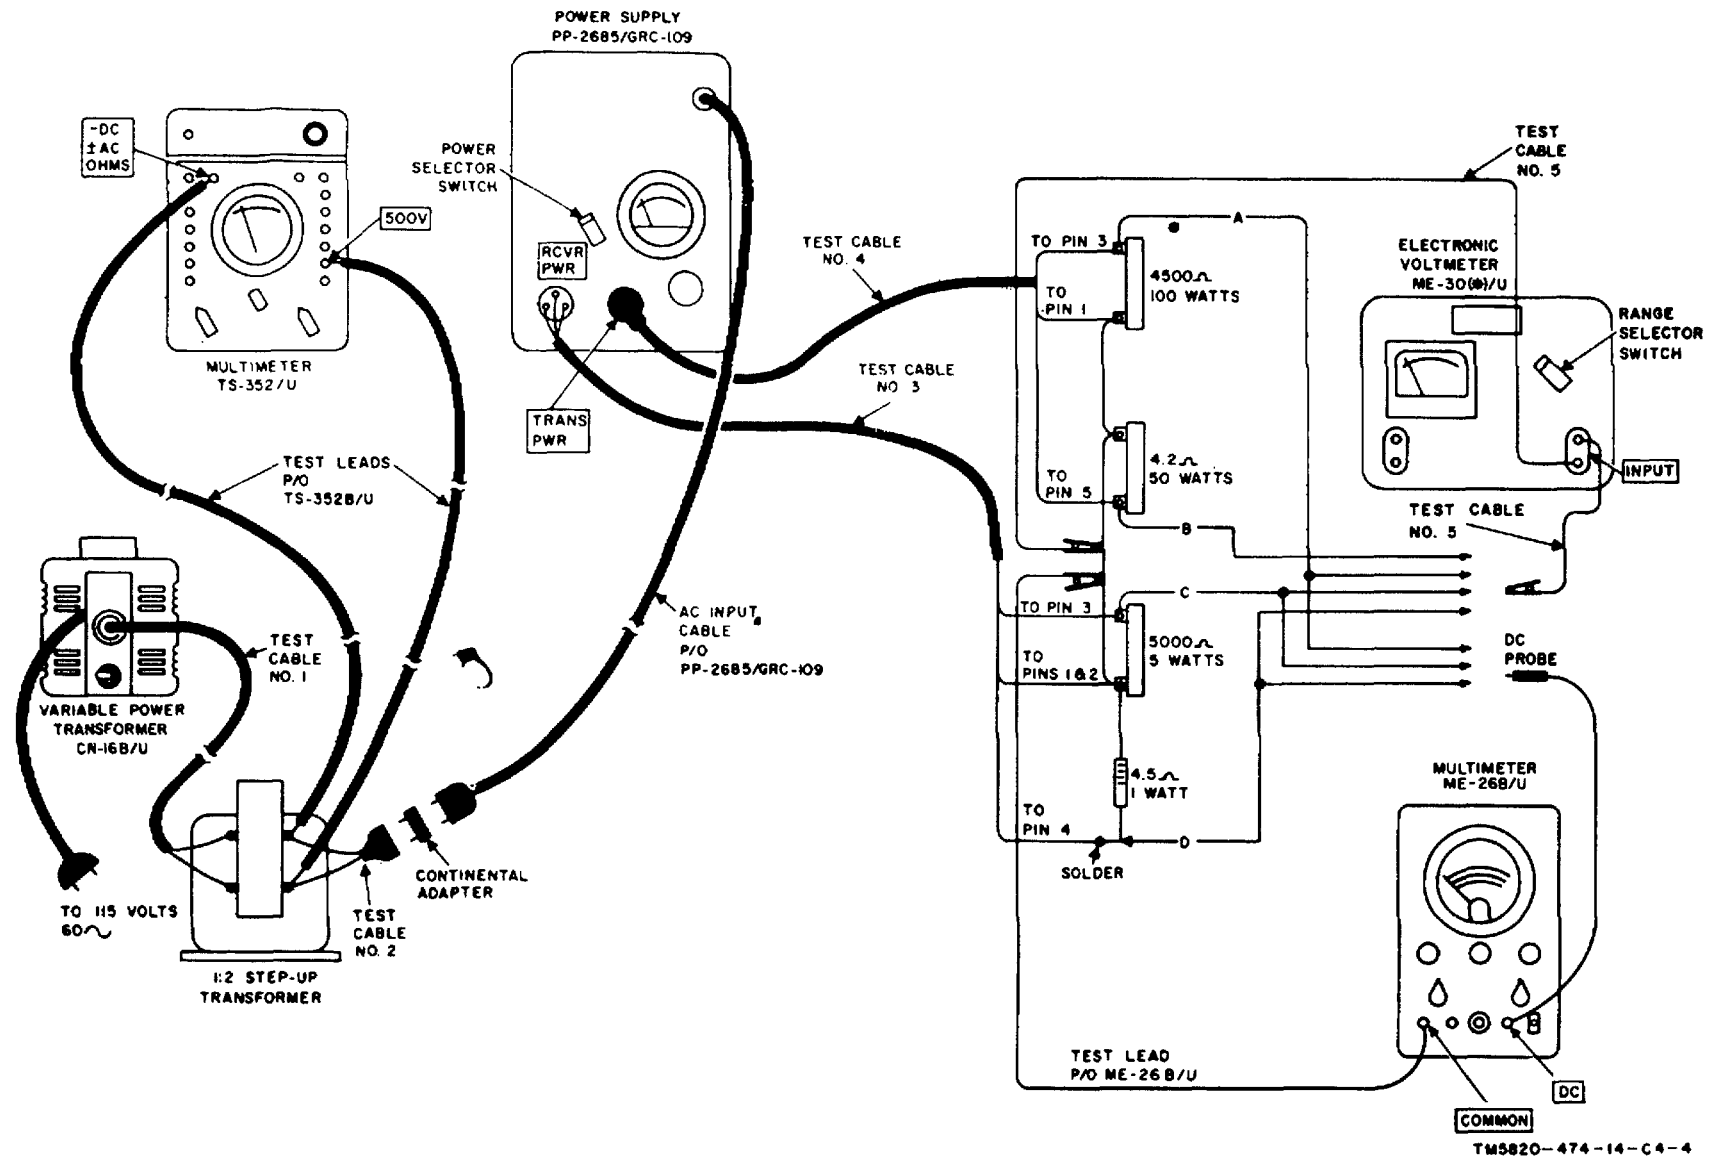

Figure 54. Power Supply PP-2685/GRC-109, output voltage and ripple tests.
b. Test Connections and Conditions. Connect the equipment as shown in figure 54. Turn on the test equipment and allow 15 minutes to warm up before proceeding. Be sure the voltage selector dial on the CN-16(*)/U is set to zero.
| 1 | TS-352(*)/U: FUNCTION: AC VOLTS ME-30(*)/U: Range selector switch: 10V. TS-505 (*)/U: FUNCTION: +D. C. RANGE: 1000V | PP-2685/CRC-109: Power selector switch: 220 | a. Connect the test leads from the ME-30(*)/U and the TS-505(*)/U to agree with connection A, figure 54. b. Adjust the voltage selector dial on the CN-16(*)/U for an indication of 220 volts on the TS-352(*)/U. c. Note the indication on the ME-30(*)/U. d. Note the indication on the TS-605(*)/U e. Adjust the voltage selector dial on the CN-16(*)/U for an indication of 75 volts on the TS-352(*)/U. f. Turn the power selector switch on the PP-2685/GRC-109 to 75. g. Note the indication on the ME-30(*)/U h. Note the indication on the TS505(*)/U i. Turn the power selector switch on the PP-2685/GRC-109 to 110. j. Adjust the voltage selector dial on the CN-16(*)/U for an indication of 110 volts on the TS-352(*)/U. k. Note the indication on the ME-30(*)/U l. Note the indication on the TS-505(*)/U | a. None. b. None. c. ME-30(*)/U indication is less than 10 volts. d. TS-505(*)/U indication 450 volts \pm 25. e. None. f. None. g. ME-30(*)/U indication is less than 10 volts. h. TS-505(*)/U Indication is 450 volts \pm 25. i. None. j. None. k. ME-30(*)/U indication is less than 10 volts. l. TS-505(*)/U indication is 450 volts \pm 25. |
| 2 | As last indicated | As last indicated | a. Connect the test lead from the ME-30(*)/U to agree with connection B, figure 54. b. Note the indication on the ME-930()/U c. Adjust the voltage selector dial on the CN-16(*)/U for an indication of 75 volts on the TS-352()/U. d. Turn the power selector switch on the PP-2685/GRC-109 to 75. e. Note the indication on the ME-30(*)/U f. Turn the power selector switch on the PP-2685/GRC-109 to 220. g. Adjust the voltage selector dial on the CN-16(*)/U for an indication of 220 volts on the TS-352(*)/U. h. Record the indication on the ME-30()/U | a. None. b. ME-30SO)/U indication is 6.3 volts \pm 0.4. c. None. d. None. e. ME-30(*)/U Indication is 6.3 volt \pm 0.4. f. None. g. None. h. ME-30(*)/U indication is 6.3 volts \pm 0.4. |
| 3 | As last indicated | As last indicated | a. Connect the test leads from the ME-30(*)/U and the TS-505(*)/U to agree with connection C, figure 54. b. Turn the range selector switch on the ME-30(*)/U to 0.1 volt. c. Turn the RANGE switch on the TS-505(*)/U to 200 V. d. Note the indication on the ME-30(*)/U e. Note the indication on the TS-505()/U f. Adjust the voltage selector dial on the CN-16(*)/U for an indication of 75 volts on the TS-352(*)/U. g. Turn the power selector switch on the PP-2685/GRC-109 to 75. h. Note the indication on the ME-30(*)/U i. Note the indication on the TS-505()/U j. Turn the power selector switch on the PP-2685/GRC-109 to 110. k. Adjust the voltage selector dial on the CN-16(*)/U for an indication of 110 volts on the TS-352(*)/U. l. Note the indication on the ME-30(*)/U m. Note the indication on the TS-505(*)/U | a. None. b. None. c. None. d. ME-30(*)/U indication is less than 0.04 volt. e. TS-505(*)/U indication is 100 volts \pm 10 f. None. g. None. h. ME-30(*)/U indication is less than 0.04 volts. i. TS-505(*)/U indication is 100 volts \pm 10. j. None. k. None. l. ME-30S)/U indication is less than 0.04 volt. m. TS-505(*)/U Indication is 100 volts \pm 10. |
| 4 | As last indicated | As last indicated | <p>a. Connect the test leads from the ME-30(*)/U and the TS-505(*)/U to agree with connection D, figure 54.</p> <p>b. Turn the RANGE switch on the TS-505(*)/U to 2 V.</p> <p>c. Note the indication on the ME-30(*)/U</p> <p>d. Note the Indication on the TS-505(*)/U</p> <p>e. Adjust the voltage selector dial on the CN-16(*)/U for an Indication of 75 volts on the TS-352(*)/U.</p> <p>f. Turn the power selector switch on the PP-2685/GRC-109 to 75.</p> <p>g. Note the indication on the ME-30(*)/U</p> <p>h. Note the Indication on the TS-505(*)/U</p> <p>i. Turn the power selector switch on the PP-2685/GRC-109 to 220V.</p> <p>j. Adjust the voltage selector dial on the CN-16(*)/U for an indication M 220 volts on the TS-352(*)/U.</p> <p>k. Record the indication on the ME-30(*)/U</p> <p>l. Record the indication on the TS-505(*)/U</p> | <p>a. None.</p> <p>b. None.</p> <p>c. ME-30(*)/U indication is less than 0.04 volt.</p> <p>d. TS-505(*)/U Indication is 1.35 volts ± 0.1.</p> <p>e. None.</p> <p>f. None,</p> <p>g. ME-30(*)/U indication is less than 0.04 volt.</p> <p>h. TS-505(*)/U indication 1.35 volts ± 0.1.</p> <p>i. None.</p> <p>j. None.</p> <p>k. ME-30(*)/U indication is less than 0.04 volt</p> <p>l. TS-505(*)/U indication is 1.35 volts ± 0.1.</p> |